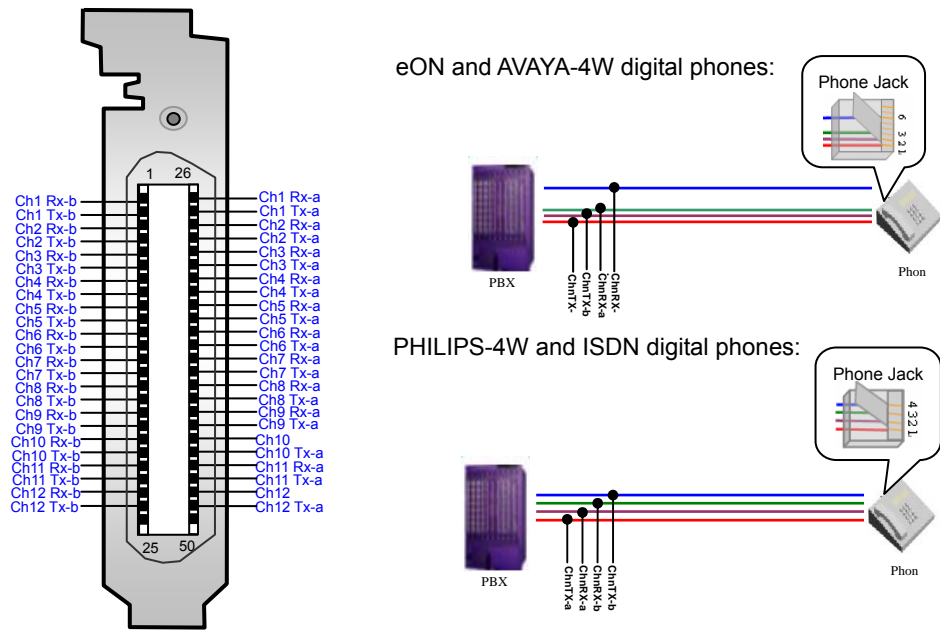

Figure 2-13
1) eON and AVAYA-4W digital phones: See Figure 2-13 below. In parallel, connect the 1st and 2nd leads of the communication line between the PBX and a phone to CHn Tx-a and CHn Tx-b, and the 3rd and 6th leads to CHn Rx-a and CHn Rx-b.
2) PHILIPS-4W and ISDN digital phones: See Figure 2-13 below. In parallel, connect the 2nd and 3rd leads of the communication line between the PBX and a phone to CHn Rx-a and CHn Rx-b, and the 1st and 4th leads to CHn